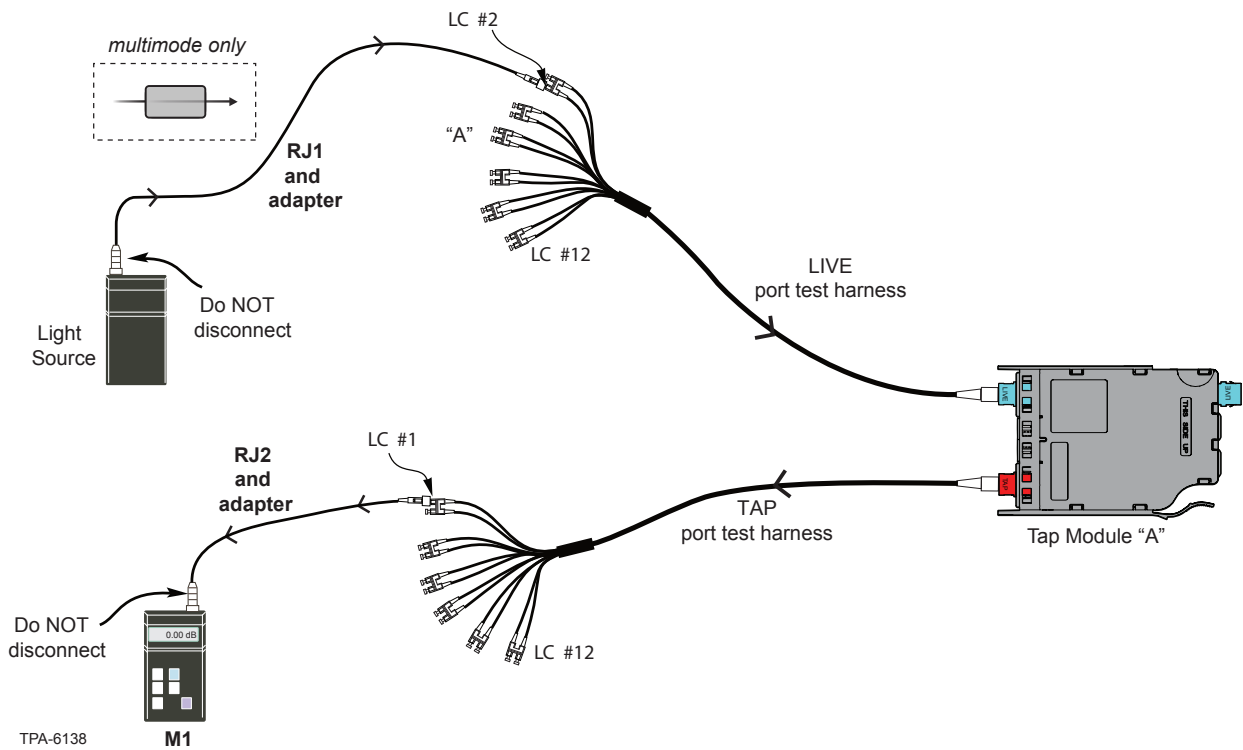

Figure 14
9.3. Table 4 provides a complete guide to the test sequence with a light source and test harness at the front-mounted TAP MTP connector and a meter and test harness at the front-mounted TAP MTP connector of the system shown in Figure 14.
9.4 To begin testing the TAP portion of the MTP Tap module from the "A" LIVE Port harness to the module TAP port test harness (Figure 14):